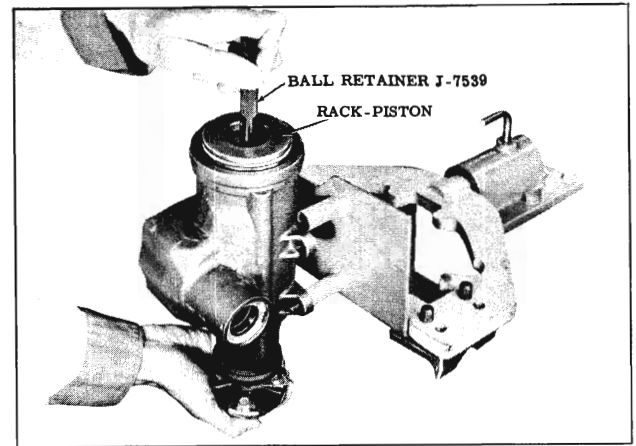

Fig. 4-44 Removing Rack-Piston
- a. Insert Ball Retainer Tool J-7539 into the rack-piston bore with pilot of tool seated in the end of the worm. (Fig. 4-44) Turn lower shaft counterclockwise while holding tool tightly against worm. The rack-piston will be forced onto the tool.